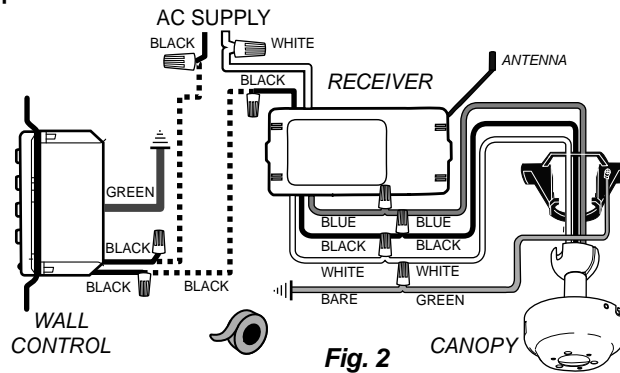

Fig. 2
- F. Using the wire connectors supplied, make wiring connections as follows: (Figure 2)
Remove wall plate from existing wall switch. Disconnect and remove the toggle switch from wall outlet box. Using the wire connectors provided, make the electrical connections to the wall control as shown in Figure 2. Wrap each wire connector separately with electrical tape as an extra safety measure. Carefully push all connected wires back inside wall outlet box. Secure wall control with 2 screws provided. Attach wall plate cover with the 2 original screws.